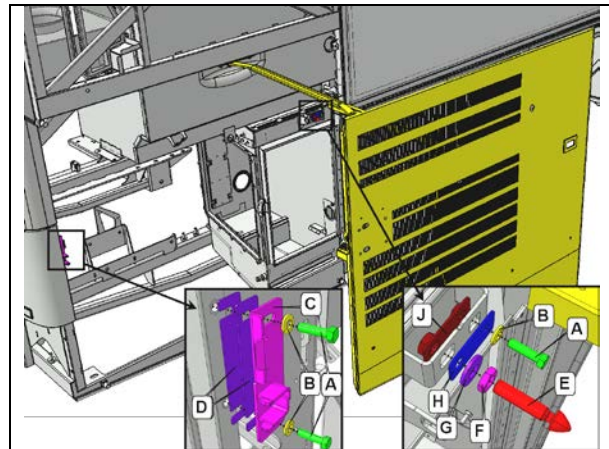

FIGURE 109: DOOR INSTALLATION – LATCH SYSTEM
1. To adjust the position, the door must be free to move without any restriction. For this reason, remove pin E and stripe plate C (**FIGURE 109**).